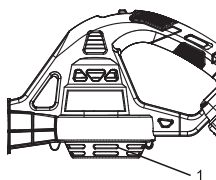

Fig. 5
1. Turn the blower onto its right side (Fig. 5).
2. Carefully brush any debris off the air intake grille (1).